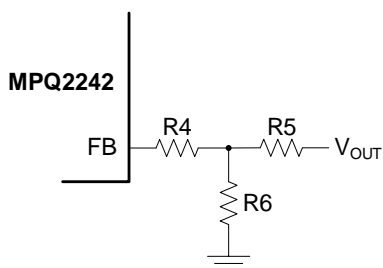

Figure 3: Feedback Network
The external resistor divider connected to FB sets V_{OUT} (see Figure 3). The feedback resistor (R4) must account for both stability and dynamic response, so it cannot be too large or too small. R5 is estimated to be 100kΩ. R6 can be calculated using Equation (2):
Using a T-type feedback network is highly recommended (see Figure 3).